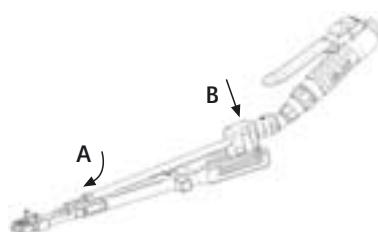

Fig. 5 Sliding the reamer handpiece into the reamer guide
- A: Position reamer handpiece 6 with the coupled reamer through the frontal guide hole of reamer guide 3, see Fig. 5.
- B: Position the laterally protruding pins of mounting block 4 through the rear guiding slots of reamer guide 3, see Fig. 5.